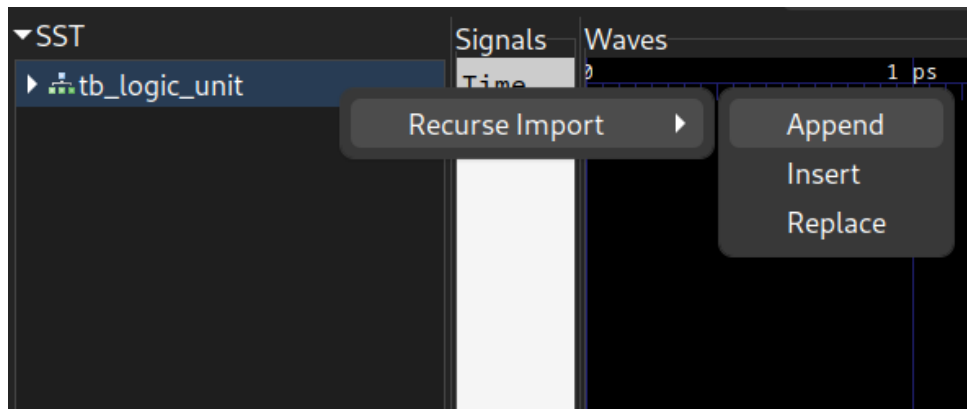

Figure 4: Adding signals to the GTKWave interface
- Add the signals to the wave view in GTKWave as shown in Figure 4.